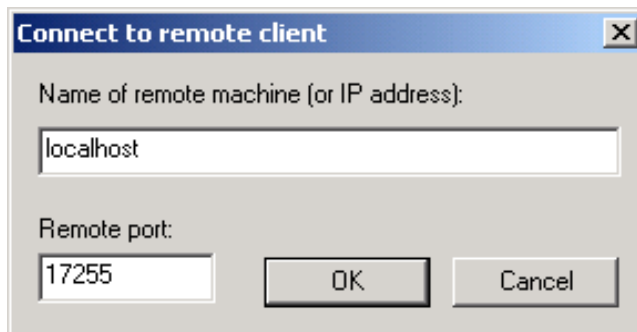

Figure 15 Connect to the Local WinCon Client
In the local configuration, WinCon Server and WinCon Client run on the same PC. To connect to the local WinCon Client, enter **localhost** in the *Client | Connect...* dialog box from the WinCon Server menu bar, as shown in Figure 15. Alternatively, you can also enter **127.0.0.1**, which is the standard local IP address.
Step 3. **Connect to the WinCon Client**. Once the Client PC's IP address is known, WinCon Server can then connect to that Client. To do so, select the *Client | Connect...* item from the WinCon Server menu bar. This command open a dialog box similar to the one shown in Figure 15. In that *Connect to remote client* window, enter the IP address or computer name of the desired WinCon Client's machine. Remember that you must have the Client open on the remote machine before connecting it to a Server.